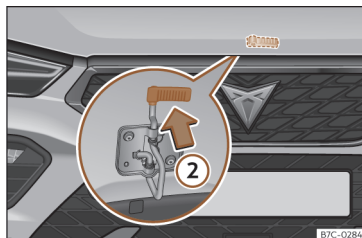

Fig. 193 Cam under the bonnet
- To lift the bonnet, press the release catch under the bonnet upwards»» Fig. 193 ②. The arrester hook under the bonnet is released.